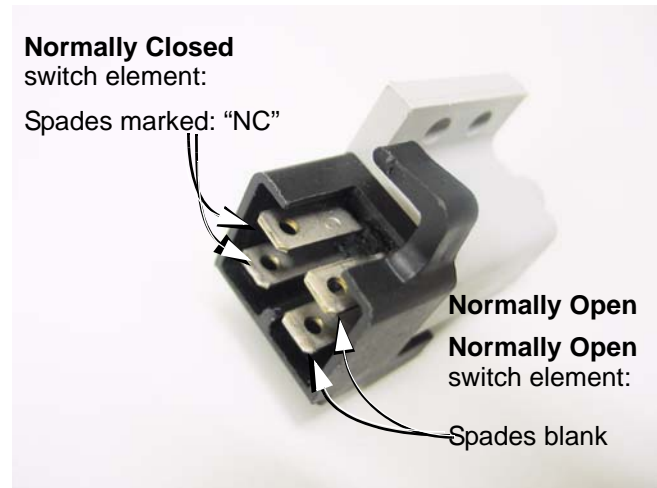

Figure 7.46
- Normally Open (NO) contacts do not complete a circuit when the switch is at-rest (plunger extended). They close to complete a path through the switch when the plunger is depressed.
- Normally Closed (NC) contacts complete a circuit when the switch is at-rest (plunger extended). They open to break the path through the switch when the plunger is depressed.
- Associated male spade terminals are positioned with their broadest surfaces facing each other. See Figure 7.46.